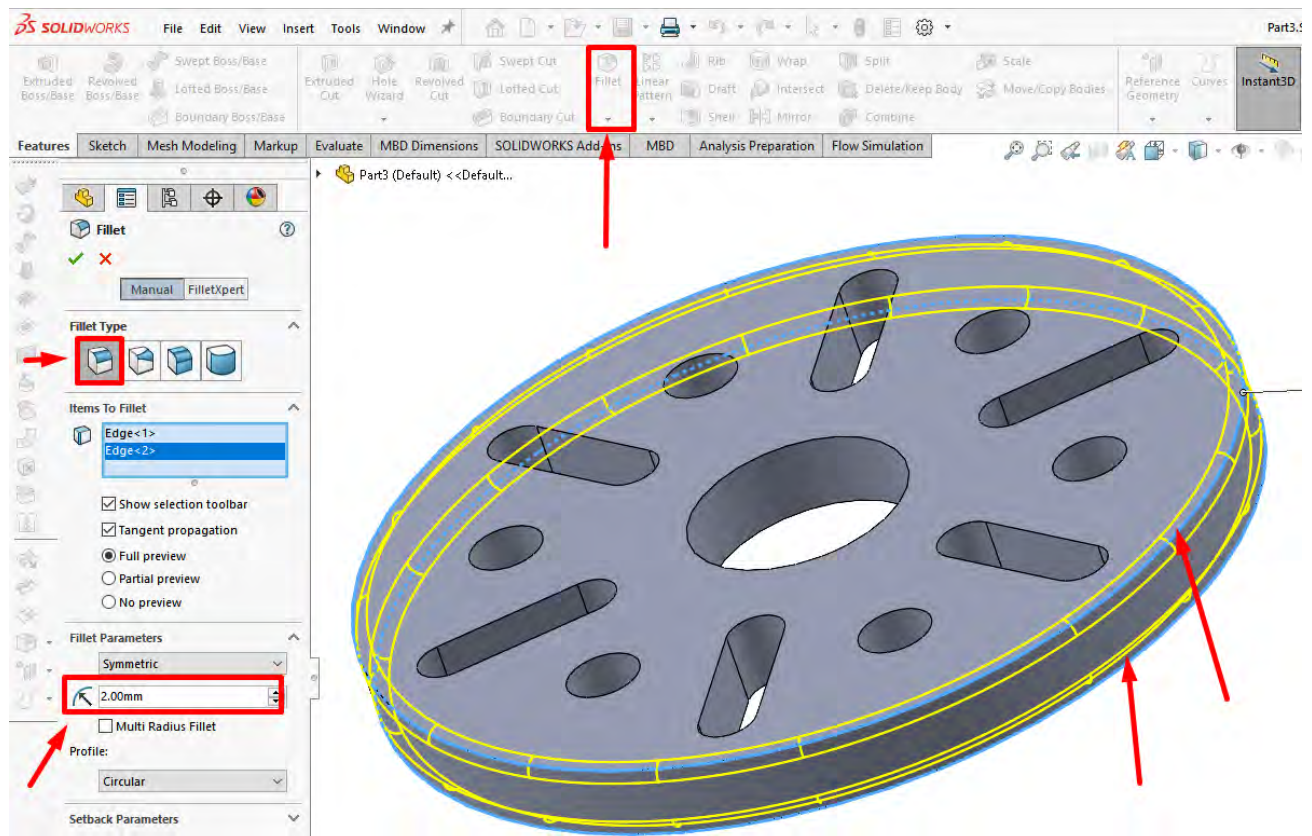

Fig. 11
- In the **Features tab**, select **Fillet** (Figure 11).
- In the properties panel, enter a value of **2 mm** for the **Radius parameter** (Figure 11).
- Select the top and bottom edges of the 3D model where you want to create a rounding (Fig. 11).